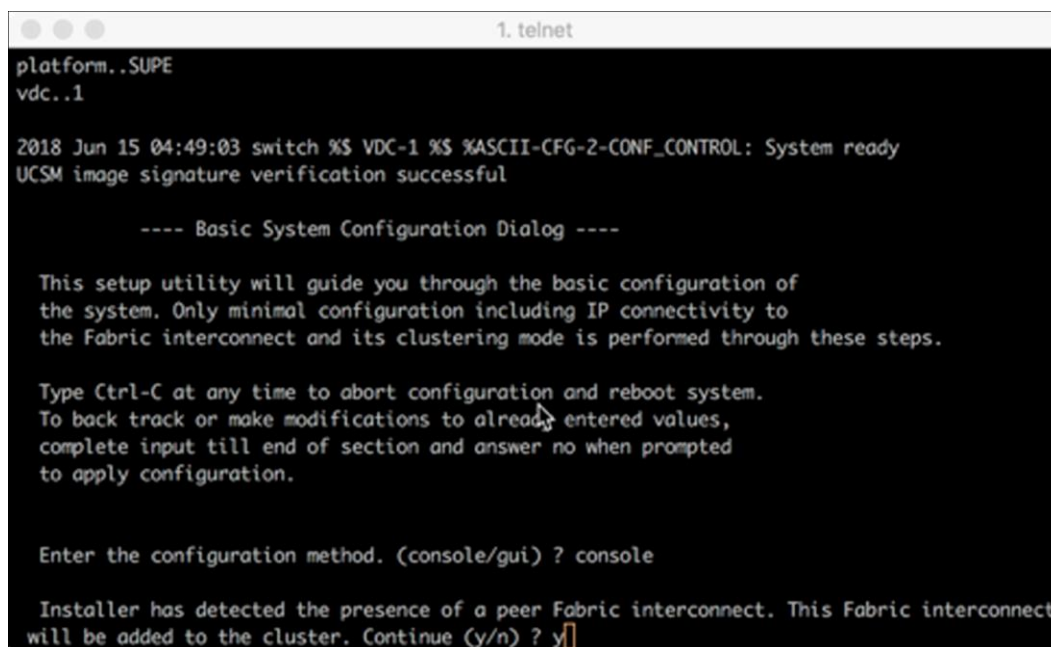

Figure 12.
Step 7: Enter the IP address information for the new subordinate fabric interconnect (Figure 12).